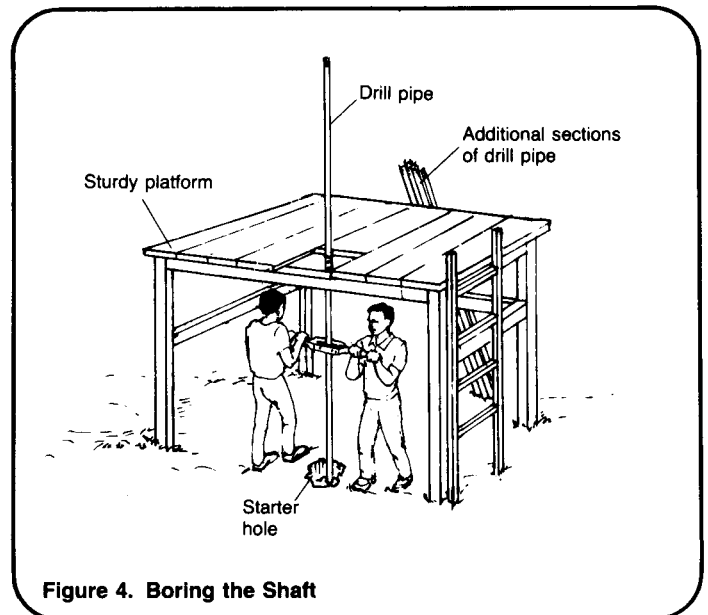
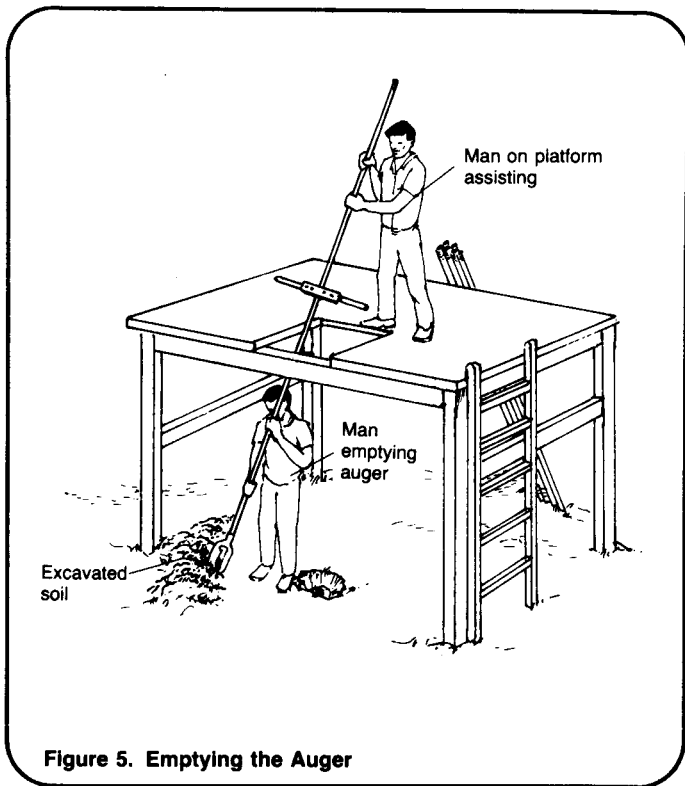

Figure 4. Boring the Shaft
Figure 5. Emptying the Auger
4. Attach the auger to the first section of drill pipe and set it in the starter hole. Attach the adjustable handle at about shoulder height. See Figure 4. Use a plumb bob and line to be certain that the drill pipe is vertical. Rotate the auger two or three turns or until it is full of soil, then lift it out of the hole and empty the soil. Use the excavated soil to build a mound around the shaft to drain away surface water as shown in Figure 5.